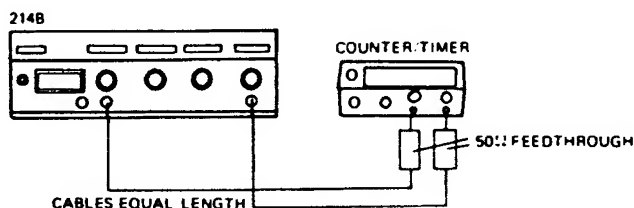

Figure 5-2
1. Connect equipment as shown in Figure 5-2 and set 214B controls as follows: